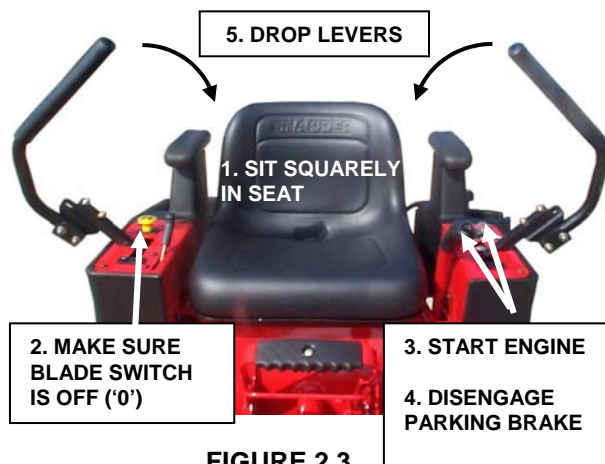

FIGURE 2.3
5. Drop both motion control levers down and in toward the center of the machine, and rest elbows comfortably on armrests. See Figure 2.3.